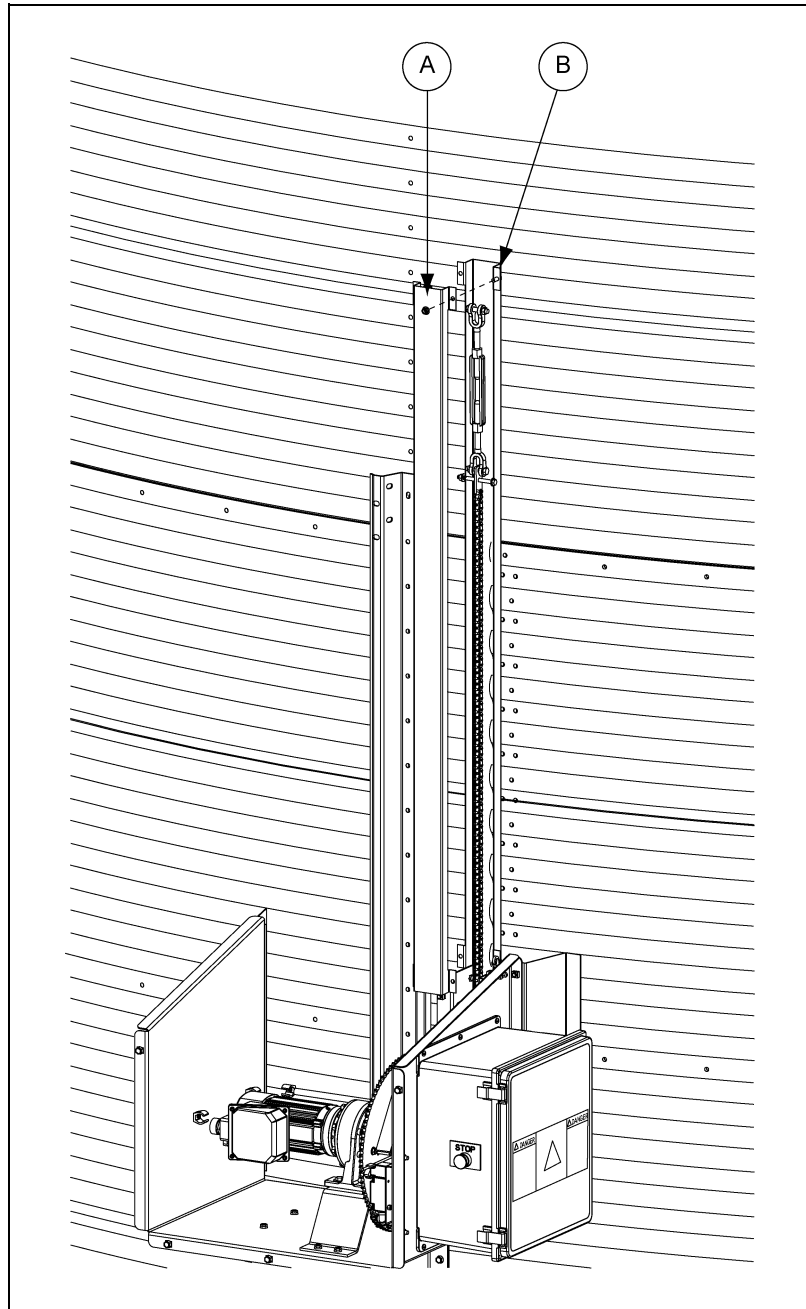

Figure 4I
1. Run the cable from the inside of the bin through the sidewall sheet over the chute pulley on the bin eave and down to the chain turnbuckle from the controller. (See Figure 4I.)